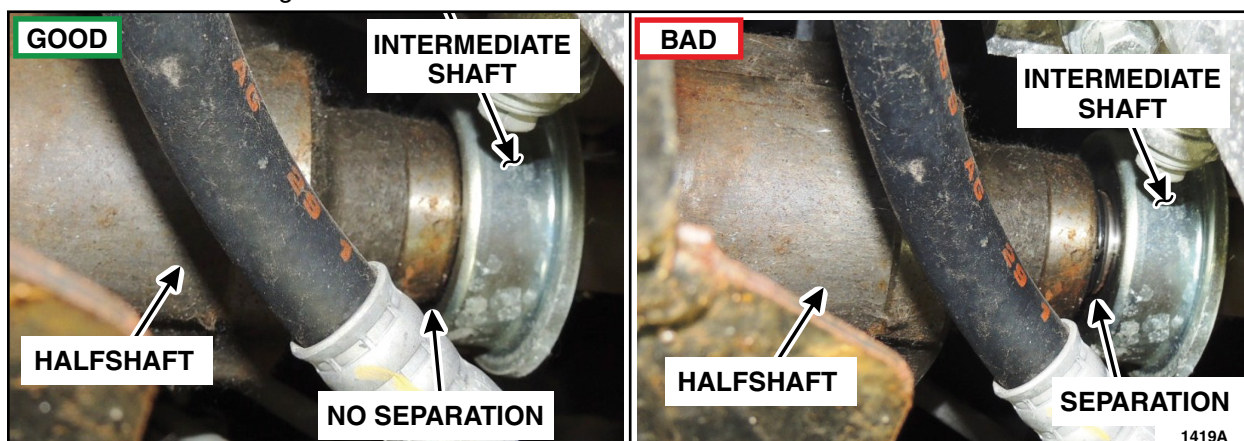

FIGURE 1
3. Inspect the halfshaft to intermediate shaft connection. See Figures 1 and 2.
- a. Visually inspect the halfshaft to intermediate shaft connection for separation. See Figure 1.
- Once the *new* intermediate shaft is installed, ensure that the halfshaft is fully seated to the *new* intermediate shaft by using your hands apply slight outward pressure to the halfshaft. See Figure 1.